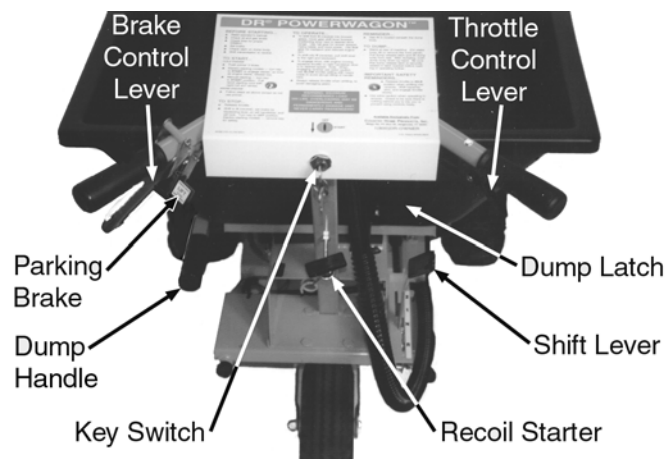

Figure 8
2. Turn the key (*Figure 8*) past the "START" position to engage the starter. As soon as the engine starts, release the key. If the engine doesn't start repeat priming and try again.
2. Turn the key (*Figure 8*) to the "START" position.
3. Pull the recoil rope (*Figure 8*) slowly, until you feel drag. Let the rope rewind slowly. Then pull the recoil with a rapid full arm stroke to start the engine. Let the recoil rope slowly return to the starter. One pull usually starts the DR[®] POWERWAGON[™], but repeat if necessary.